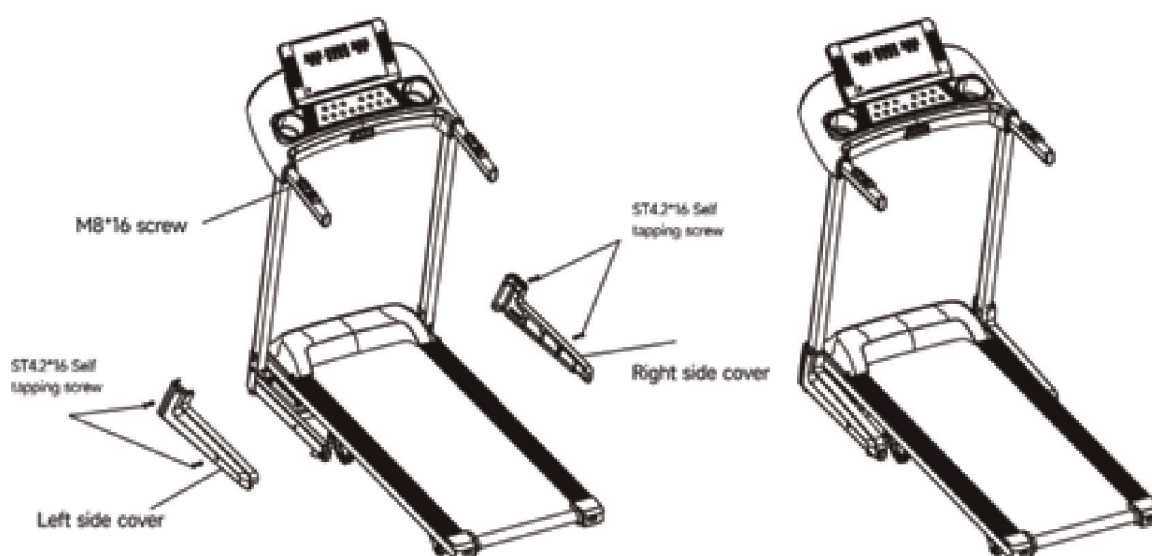

Figure 3
2.1 Fold up the instrument (Figure 3). Fix the instrument to the column with M8*16 screws. Tighten all the screws with an Allen wrench.